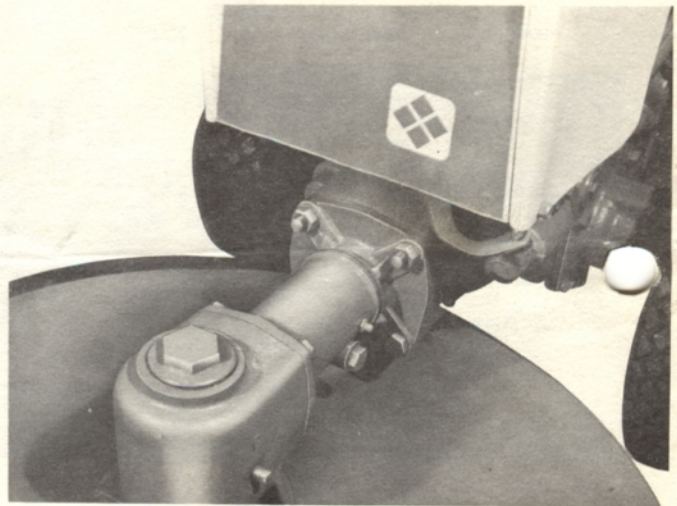

fig 3
1. The mower attaches to the tractor with 2 bolts and 2 nuts as shown in fig 3. Do not damage the threaded studs.